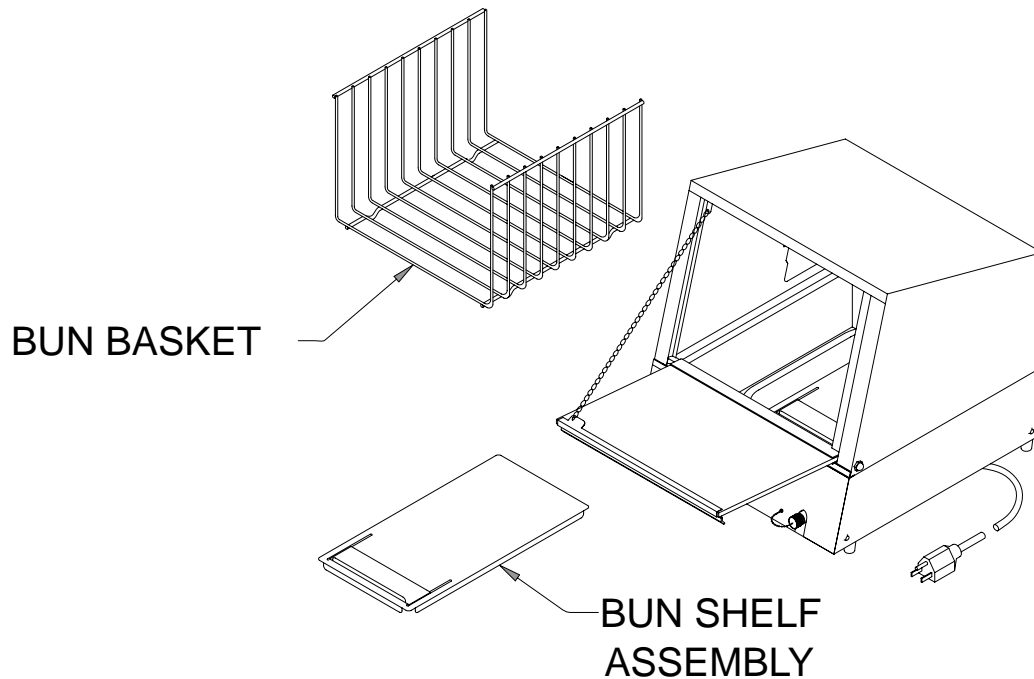

Figure 2.
3. Install the following items in the unit (see figure 2).